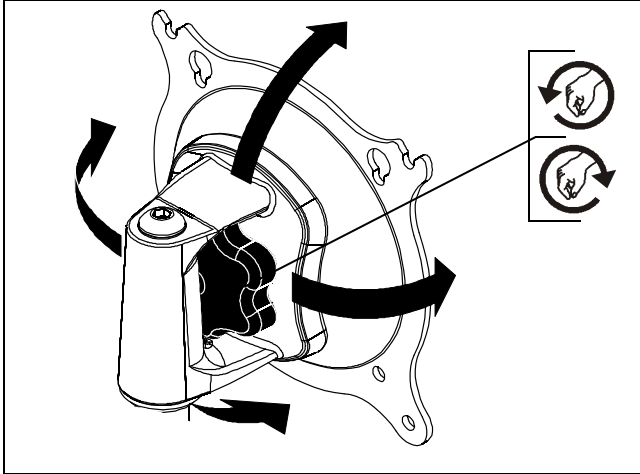

Figure 9
1. Turn adjustment knob, located on back of Centris Turntite head, clockwise to increase tension or counter-clockwise to decrease. (See Figure 9)